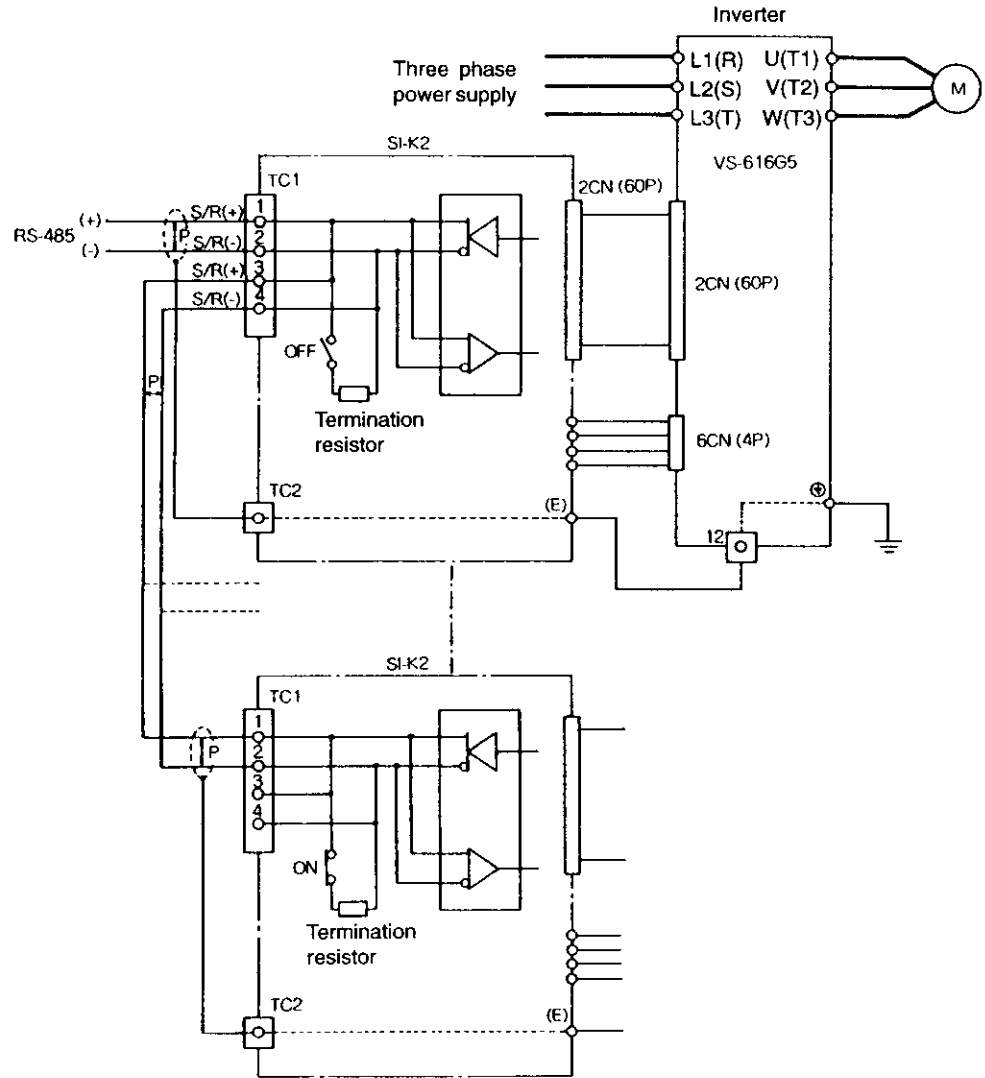

Fig. 3 Interconnection diagram
Fig. 3 shows interconnection between the inverter, SI-K2, and peripheral equipment.
- To prevent noise, use shielded wire in the specified area in Fig.3 and separate from heavy current circuits (200VAC or greater) or relay drive circuits.
- Connect the grounding lead wire (E) to pin ⑫ of the control board of the inverter.